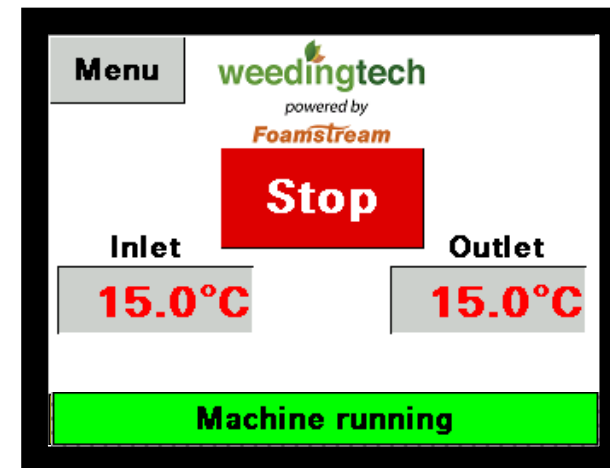

Figure 17 – Stop button showing on the PLC
- Press the red stop button pictured on Figure 17. All lights will extinguish apart from the 'power' light (white) and the red fault light. The red fault light will remain on until the water temperature in the M600 drops to a safe level and the pump stops.
The emergency stop button is not to be used in place of the red stop button (Figure 17). Doing so can damage the hydraulic system by holding hot water inside. The shutdown procedure includes flushing the system with